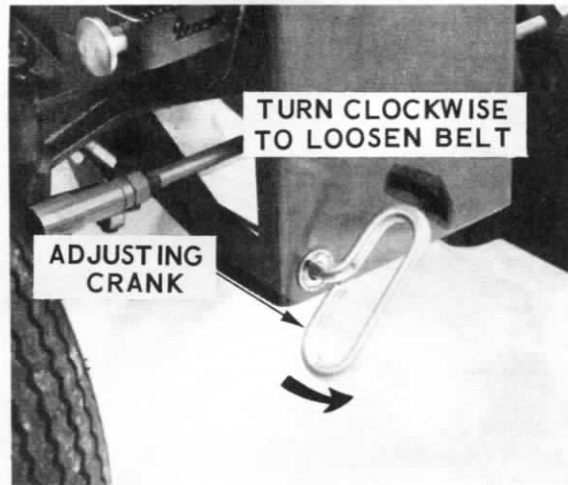

Figure 15.
9. See Figure 15. Pull the attachment drive lever to the "on" position. Raise the hood and remove the spark plug wire as a safety precaution. Insert